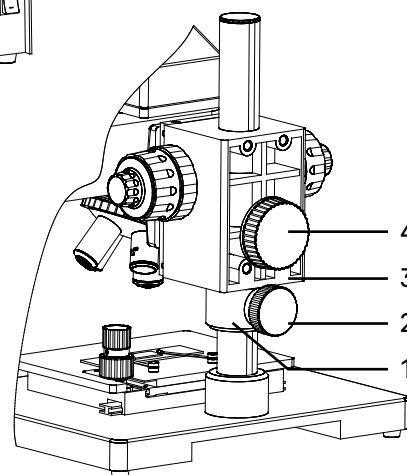

Fig. 2b. Adjusting the height of the microscope body
2. Take out the stand with the base and body of the microscope 1 and place it on a stable work table, remove packaging and the dust cover. Prior to work, adjust the microscope body to the desired height. To do this, loosen the knob 2 of the locking support collar 1 (Fig. 2b). Raise (lower) the collar to the desired height. Loosen the knob 4 and move the microscope body 3 to the top part of the collar. **To prevent the microscope body from unintentionally lowering, tighten the lifting mechanism knobs as far as they will go.**